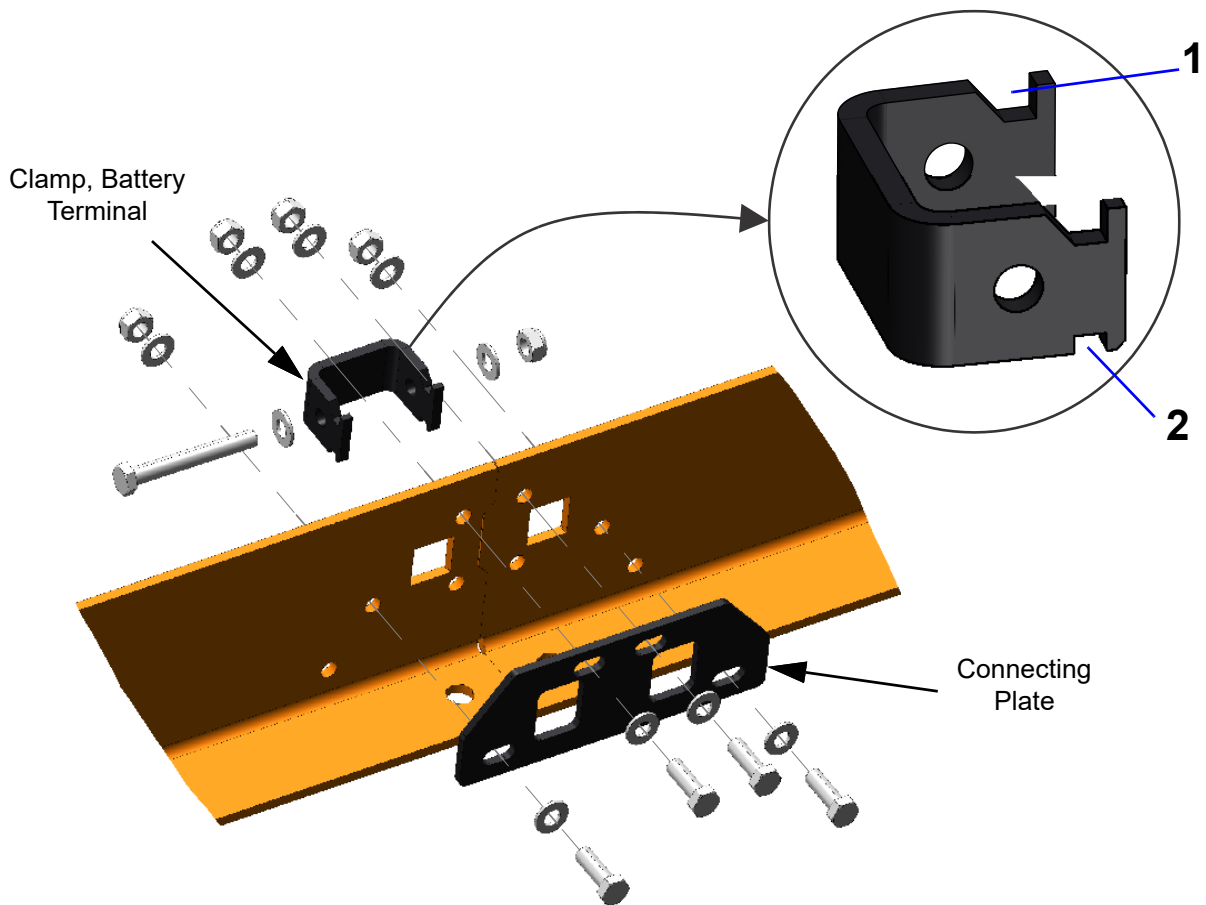

FIG. 2-5
3. Connect the bed sections using the connecting plate, clamp and bolts shown in Figure 2-5. Set the clamp in place by inserting the smaller notch *k* in first and tilting the clamp downward to catch the larger notch *j*.
See figure 2-5.